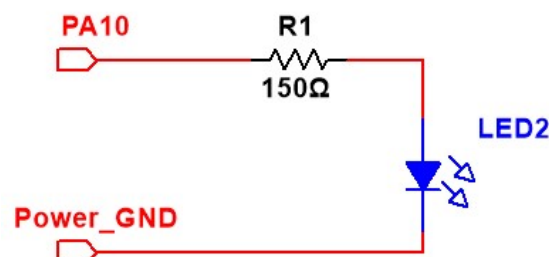

Figure 5: LED2 Circuit
6. Rebuild (or use) the resistor/LED circuit in Figure 5 from last lab. The cathode of the LED is connected to ground (GND in connector CN6) and the resistor is connected to PA10 on CN9.